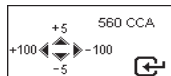

Fig.17
13. To adjust the CCA value, press ◀or ▶key will increase or decrease the value by 100 while▲or▼ key will increase or decrease the value by 5 as shown in Fig.17 below.